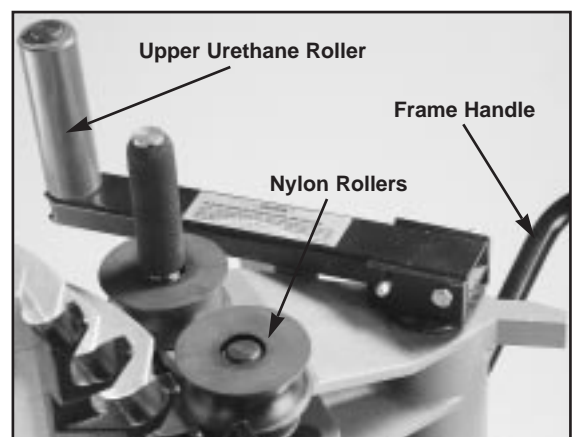
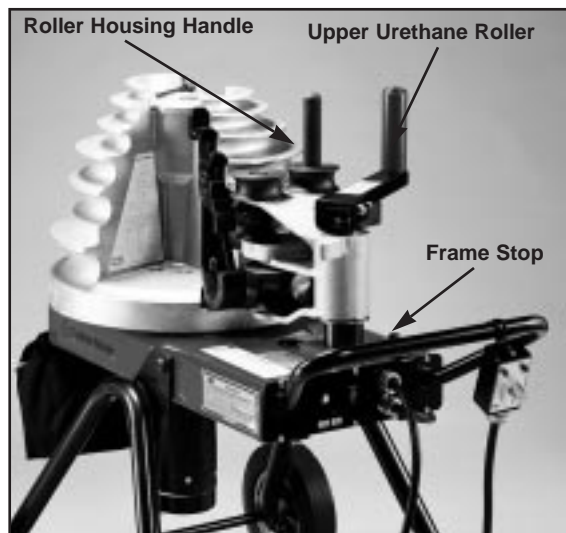

Figure 6. Position Roller Support
Figure 10. Unload Conduit
2. Move the roller housing against the frame stop (Figure 10). The upper urethane roller must be on the outside (toward frame handle) of the roller housing (Figure 6). If it's not, pull the ring pin. Lift the roller support arm, swing it over the roller housing, lower the handle into the bracket and insert the ring pin.
9. Grasp the upper urethane roller and move the support arm clockwise until the rollers move away from the conduit (Figure 10). Push the roller housing against the frame stop. Remove bent conduit.